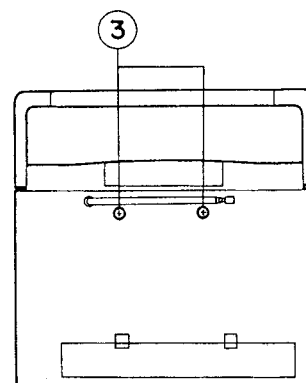

Fig. 3
■ CD Player Assembly (refer to Fig.3)
1. Turn the body backward and remove the two screws ③ retaining the CD player assembly.